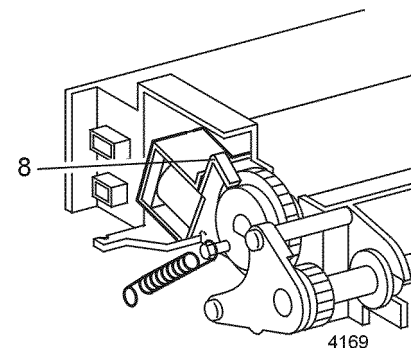

Figure 2 Feed Solenoid
8. Release the Paper Feed Solenoid and rotate feed rolls to allow access to the sensor (Figure 2).